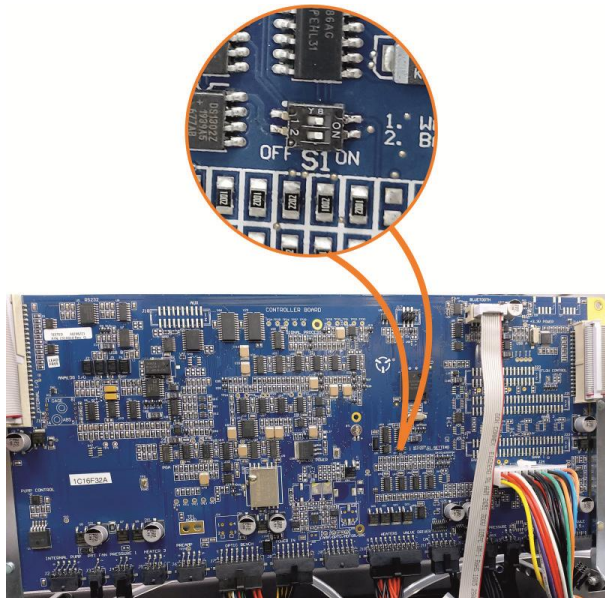

Figure 26 – Switching the Battery ON/OFF
2. Refer to Figure 26. Check the battery is turned ON at the main controller PCA.
4. Refer to Figure 26. If storing over a long period (six months) turn the battery OFF by the switch on the main controller PCA.